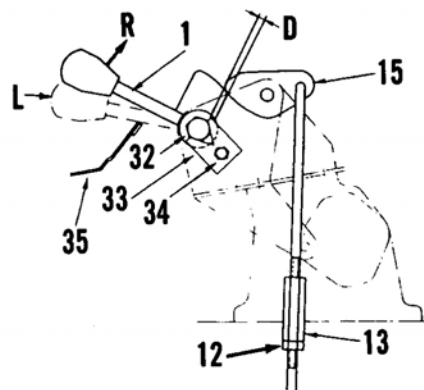

Fig. 50—Side view of forward speed control components. Refer to text.
To adjust forward speed control components proceed as follows: Loosen locknut (12—Fig. 50) and turn turnbuckle (13) until dimension (D) is 6-8 mm (15/64-5/16 inch), then retighten locknut (12). Loosen locknut (37—Fig. 51) and turn adjuster nut (39) to adjust tension on spring (38) until force required to operate lever (1—Fig. 50) in “R” direction is 25-30 N (5.5-6.6 lbs.), then retighten locknut (37—Fig. 51).
(1—Fig. 50), adjust as follows: Loosen screw (34) and reposition retainer plate (33) until play is reduced and head of bolt (32) does not rotate when lever (1) is operated.